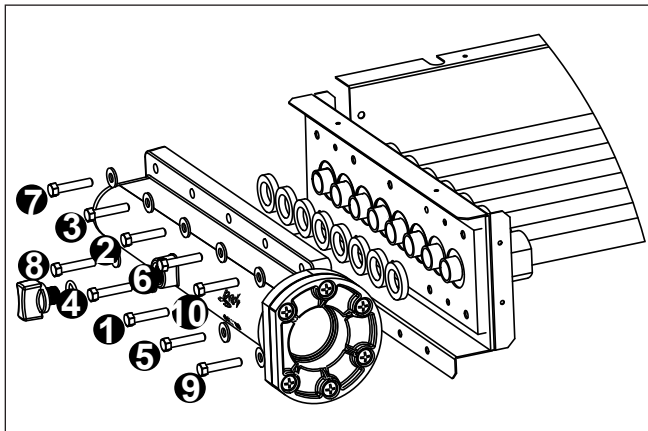

Figure 11. Header Bolt Tightening Sequence
15. Thread on the 10 bolts and washers and hand tighten. See Figure 11.
16. Use a torque wrench to tighten the bolts on each header to 4 ft-lbs. The bolts must be tightened in the sequence indicated in Figure 11.